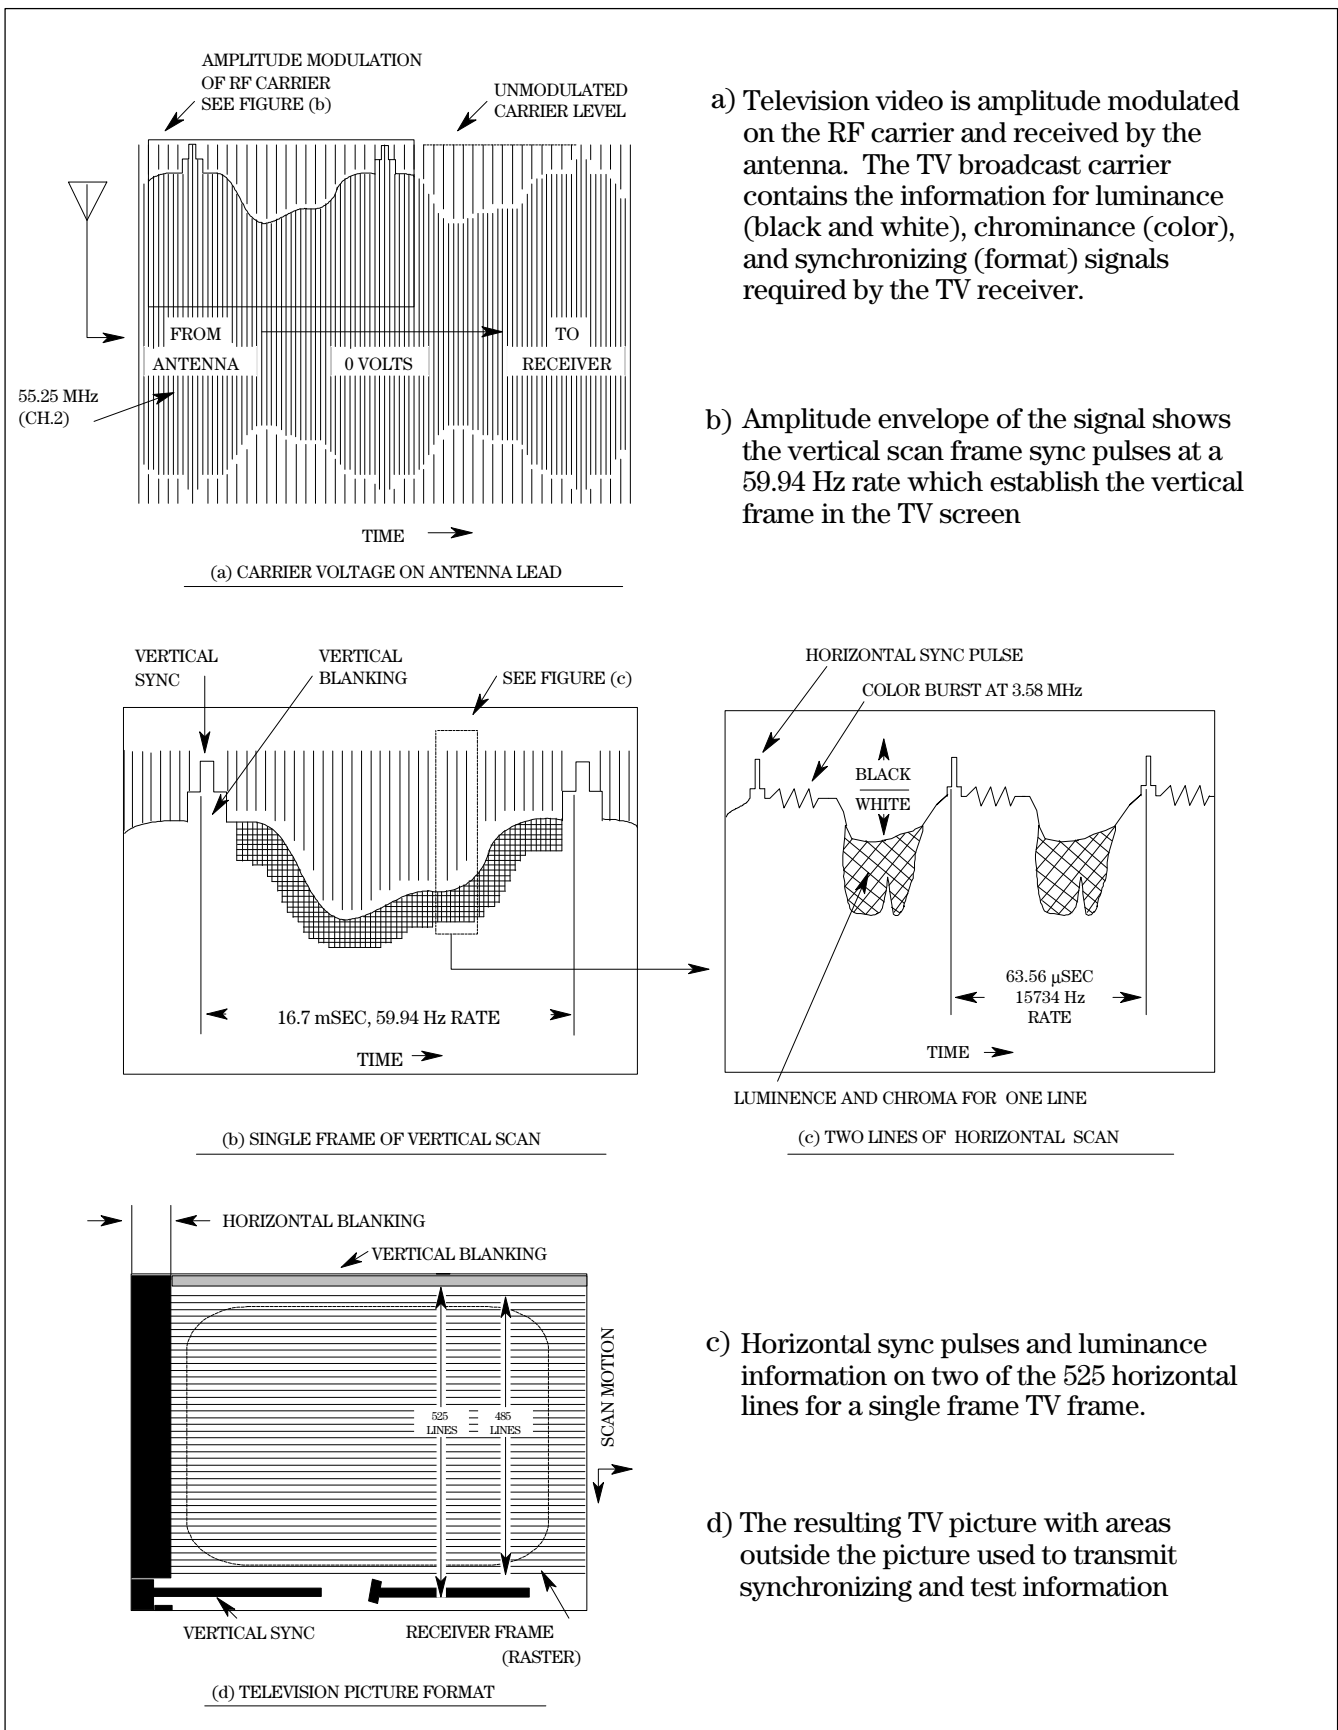
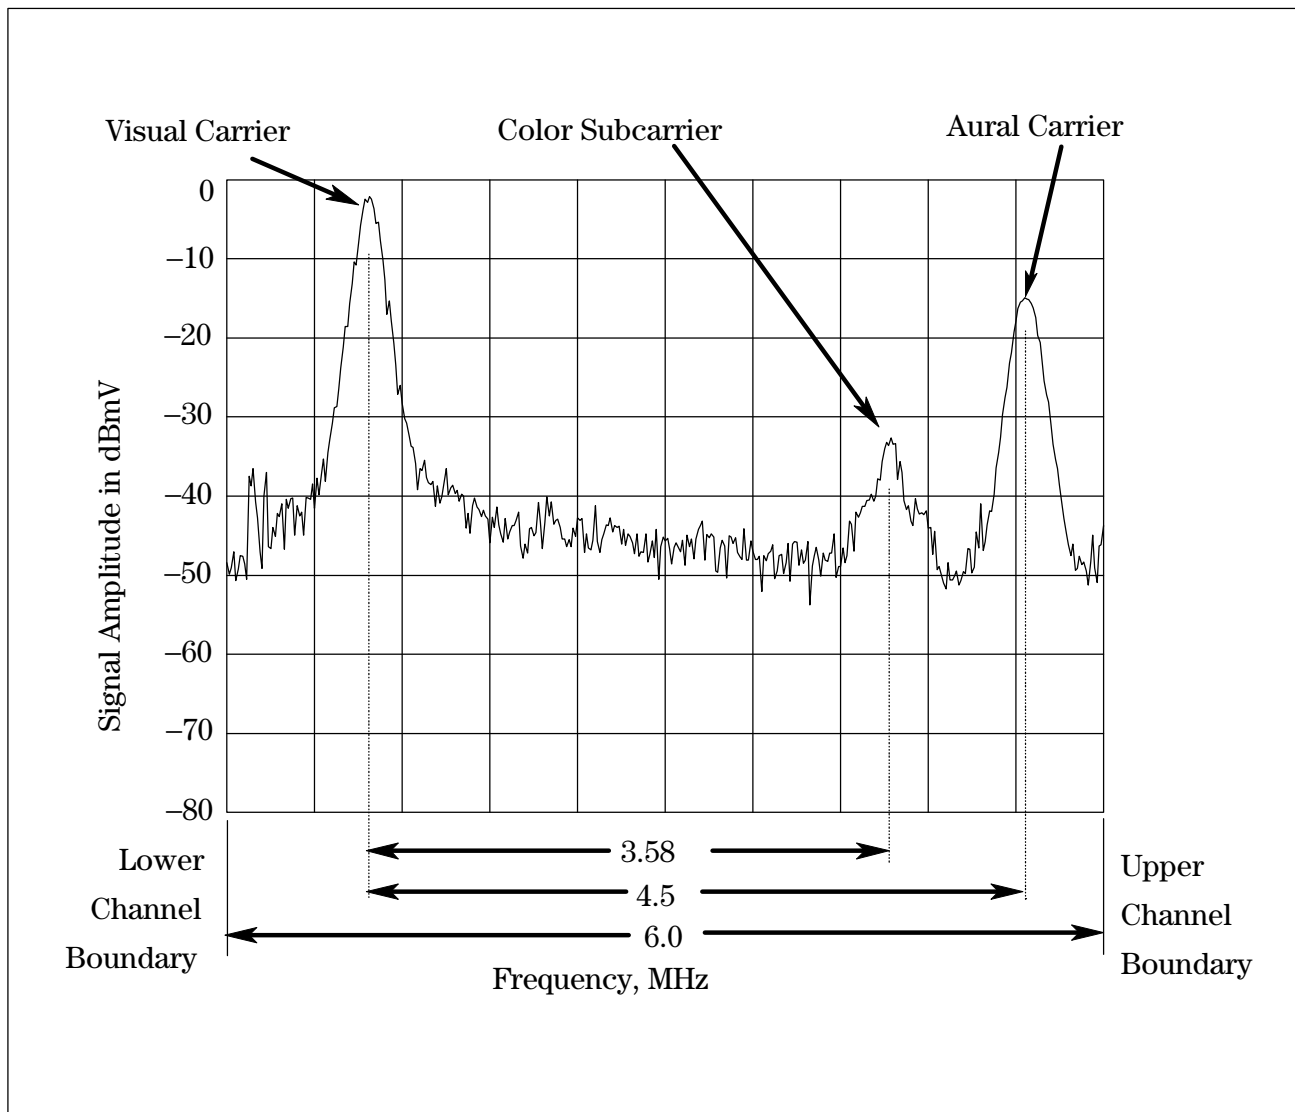

Figure 1.1. TV broadcast carrier modulation parameters for NTSC standards.
Figure 1.2. In the frequency spectrum, the TV channel energy separates into its major signal components.
Figure 1.1 shows the relationship of the RF carrier's modulation to a TV raster. The numbers relate to the NTSC standard, but the methods apply to PAL and SECAM as well. In Figure 1.1(a), the amplitude modulation is shown as an envelope on the RF carrier, symmetrically about a zero voltage amplitude. When a TV receiver looks at this carrier, it picks off only the envelope and discards the RF carrier. Figure 1.1(b) expands a portion of this envelope to show the vertical scan as frame sync pulse. The square sync pulse provides bursts of RF energy at the peak carrier amplitude. This repetitive burst synchronizes vertical scan on the TV receiver at a 59.94 Hz rate (60 Hz for B/W).
Figure 1.1(c) is a 1:100 time domain magnification of the waveform in Figure 1.1(a). It shows the horizontal sync pulses and luminance information on two of the 525 horizontal lines that make up a single frame. These sync pulses, which run at a 15,734.264 Hz rate, also have their tops at the peak RF carrier level. For color transmission this pulse includes a 3.579545 MHz burst on its trailing side, or "back porch." This burst of 3.58 MHz is still an amplitude modulation envelope of the carrier; that is, for the duration of the burst the amplitude of the RF carrier increases and decreases at a 3.58 MHz rate.
Figure 1.1(d) shows the TV picture that results from these amplitude modulation (AM) signals. The area not viewed by a TV receiver is also shown in the figure. The horizontal black bar at the bottom of the screen, the vertical interval, usually contains test signals used by the broadcast system for on-line performance tests that will not interfere with the regular programming.
The audio information in a TV channel is a frequency modulated carrier placed 4.5 MHz above the visual carrier at less than 1/8 of its power. Figure 1.1 (a) doesn't show the aural carrier. The aural signal frequency modulates onto the RF carrier, thus becoming its sideband.
Figure 1.1 shows the broadcast signal in the time domain, as on an oscilloscope. Additional information is available with a display of the signal's amplitude versus **frequency** instead of time. Such a display is called the **frequency domain** or **frequency spectrum**.
Figure 1.2 shows a frequency domain display of a single TV channel. The vertical axis is scaled to the power of the signal, in units relative to a millivolt. (Chapter 2 covers units and power.) The modulation shown in Figure 1.1 in the time domain is now shown in the frequency domain. Since the visual signal contains most of the transmitted power including aural and color information which is modulated onto it, it is the **carrier**. The sidebands generated would be symmetrical to the carrier except that, on the lower frequency side (to the left of the carrier), the sidebands beyond 0.75 MHz are trapped, or filtered, prior to transmission. This **vestigial sideband** technique is used to conserve frequency spectrum. The TV receiver uses the full upper sideband and the appended lower sideband to reconstruct the TV video.